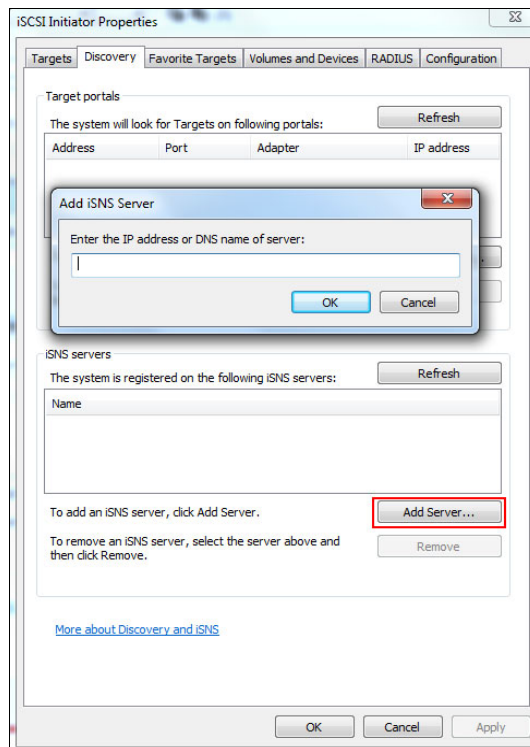

Figure 7-61 Adding the iSNS Server address
3. Click **Add Server**, as shown in Figure 7-61.